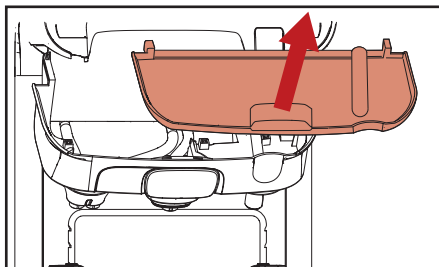

Fig. 5.11 - Remove internal drip tray
- c. Remove the internal drip tray and clean it, if necessary (fig. 5.11).